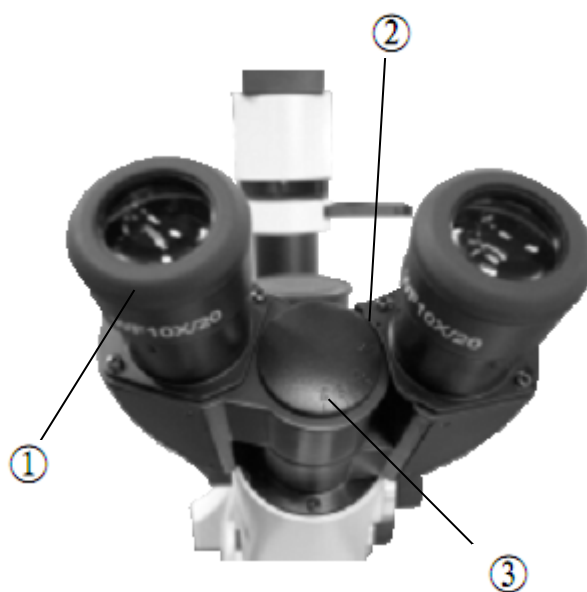

Fig .20
4-3-1 Adjusting the diopter (Fig.20)
★ **The reticle on the interpupillar distance indicator^③, pointed by the spot “.”^② on the eyepiece holder, shows the scale of the interpupillar distance.** (Fig.20)